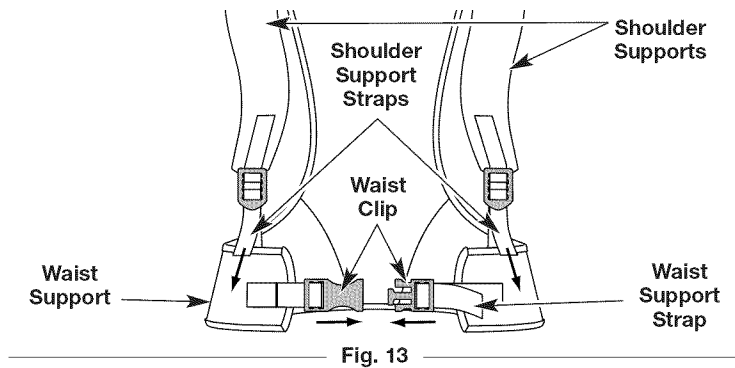

Fig. 13
2. Insert one end of the waist clip into the other end until it locks into place (Fig. 13).
3. Pull the shoulder support straps down to tighten the shoulder supports (Fig. 13). Pull the waist support strap to the left to tighten the waist support (Fig. 13).